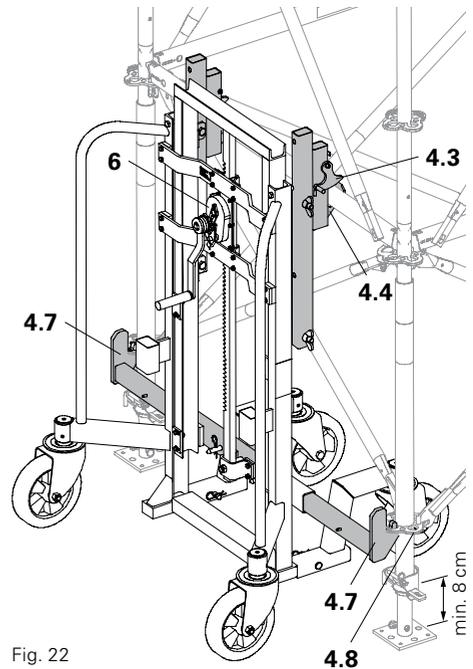

Fig. 22
2. Adjust the height by means of the Winch (6) so that the rosetts are connected to the support hooks (4.7) and the Ledger with the holding pockets (4.4). (Fig. 22)
Min. 8 cm. (Fig. 22)